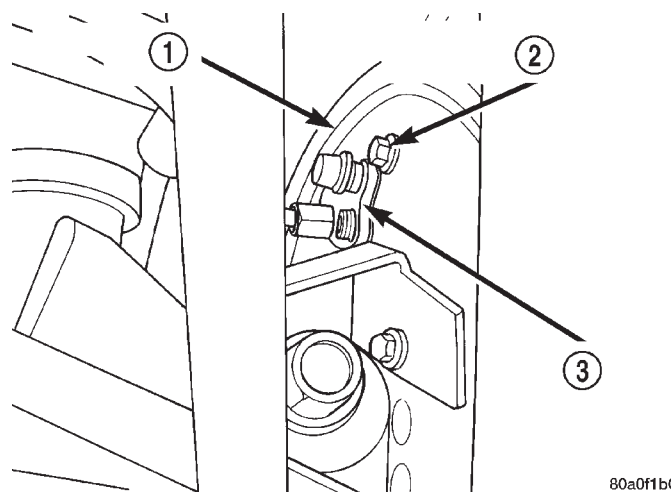

Fig. 101 Wheel Cylinder Attaching Bolts
(3) Remove rear wheel cylinder attaching bolts (Fig. 101). Then pull wheel cylinder assembly off brake support plate.
(1) Apply a small bead of silicone sealer around the mating surface of the wheel cylinder to brake support plate.
(2) Install wheel cylinder onto brake support plate. Tighten the attaching bolts (Fig. 101) to a torque of 13 N·m (115 in. lbs.).